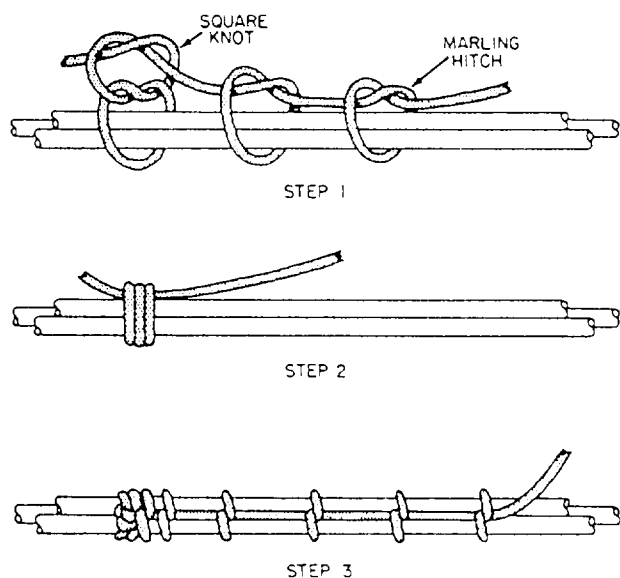

Figure 2-57.—Applying single lace.
**SINGLE LACE.**— Single lace may be started with a square knot and at least two marling hitches drawn tight. Details of the square knot and the marling hitch are shown in figure 2-57. Do not confuse the marling hitch with a half hitch. In the marling hitch, the end is passed over and under the strand (step 1). After forming the marling hitches, draw them tight against the square knot (step 2). The lace consists of a